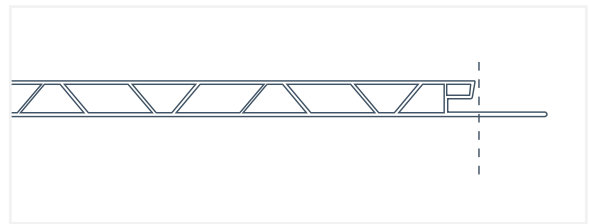

Fig. 34
6. Cut the screw flange off the replacement panel as close to the panel body as possible. It is recommended to use tin snips for this step (Fig. 34).